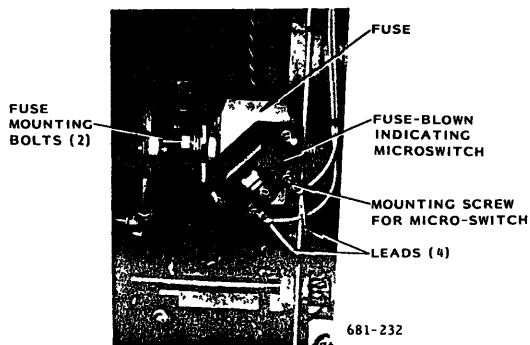

Fig. 18 Main Circuit Fuse Assembly
1. Loosen the two lead clamping screws, and free the four leads of the fuse-blown indicating microswitch. (Fig. 18)